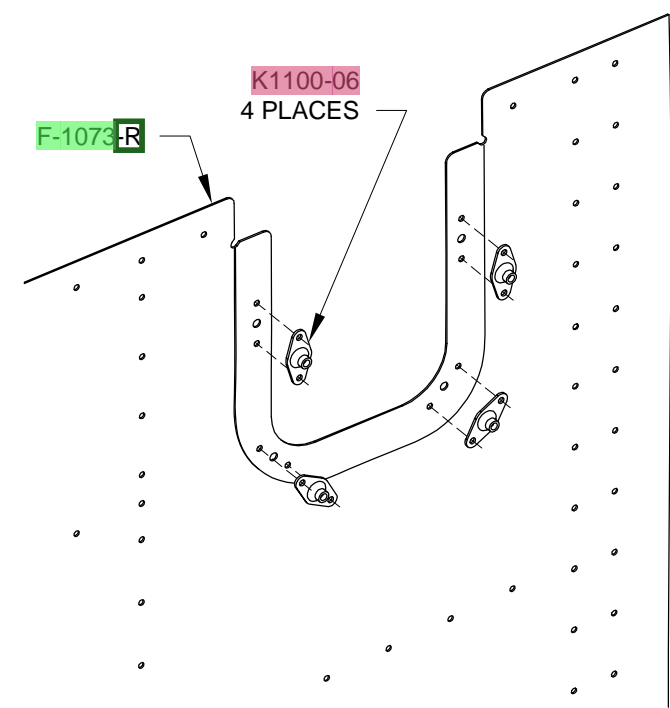

FIGURE 1: RIVETING THE COVER PLATE NUTPLATES
Step 1: Rivet the nutplates (used to attach the F-824B Cover Plates) called out in Figure 1 to both F-1073 Side Skins.